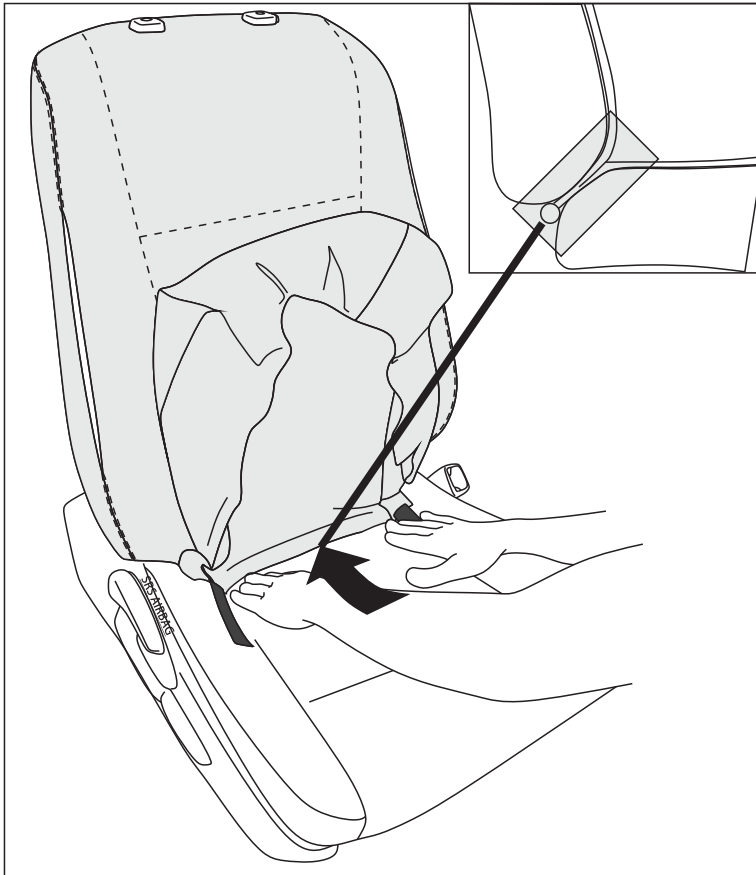

Fig.5
5. Feed the central rod in between the seat backrest and base (Fig.5).